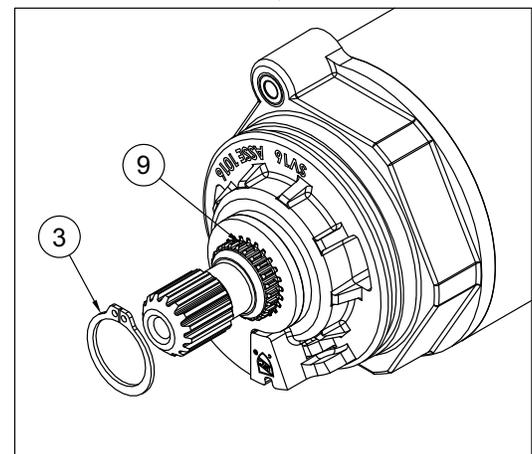

FIGURE 10
21. With valve in the “ON” position and water running install the **retaining ring 3** with snap ring pliers. Confirm snap ring is inserted properly on groove of stem. (When water is running the external **stem 9** is pushed outward increasing the exposure of the snap ring groove.) See **Figure 10**.